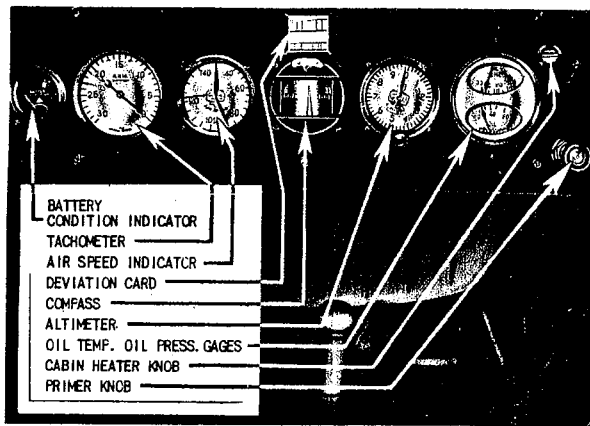

Figure 8—Instrument Panel on the Model L-4A
(1) On the model L-4A the instrument panel contains a battery condition indicator, tachometer, air-speed indicator, compass, compass deviation card, altimeter, oil temperature, and oil-pressure gages, primer knob, and cabin heater knob. (See figure 8.)
b. If the engine does not start, turn ignition switch "OFF." Turn primer knob (figure 8) to unlock, and pull out; pump three or four times and reseal primer plunger and lock by turning knob in the opposite direction.